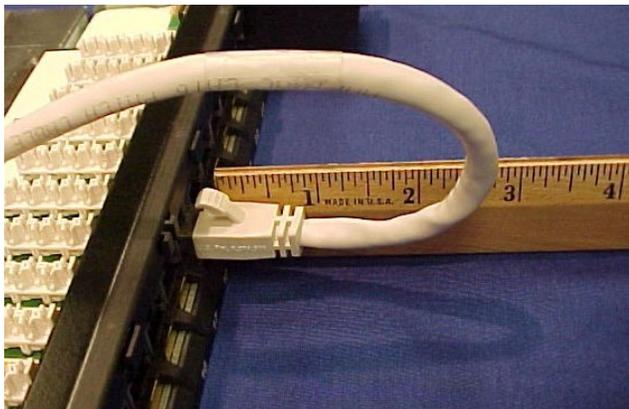

Figure 6
- the first bend of the patch cord must not occur within 50.8 mm [2 in.] of the port (see Figure 6)